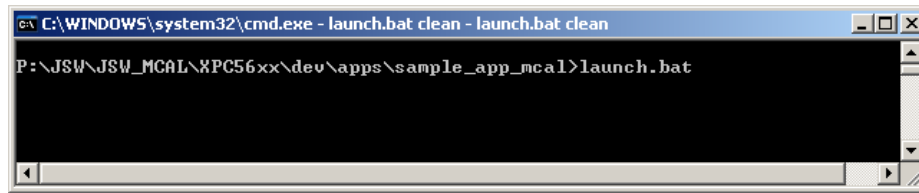

Figure 5-1. Building the Sample - Launch Command
3. To build the sample, execute the following command to run *launch.bat* file as shown in Figure 5-1. Building the Sample - Launch Command